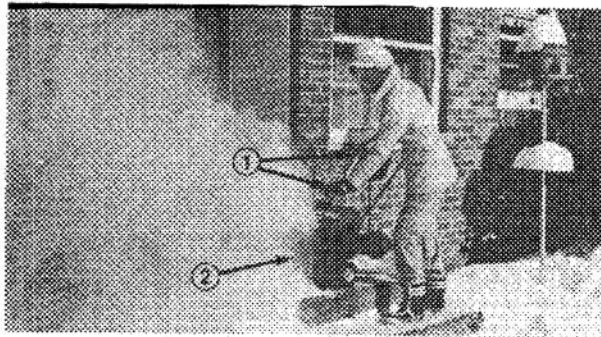

Figure 12
5. When clearing snow from steps or cutting through deep drifts, hold snowthrower by the upper and lower handles and use a sweeping side to side motion (Fig. 12).